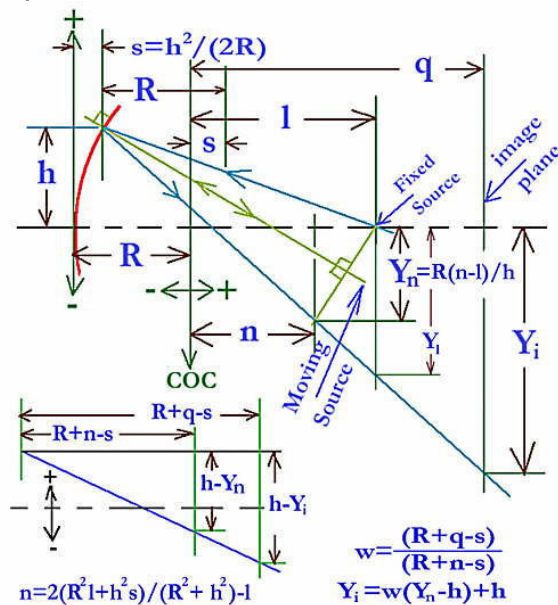

Fig. 11. Fixed Source-LWT.
Solve for I (C14) – Fig. 11 and 12
- $Y_i = Y_i$ when $q = l$ (Fig. 11).